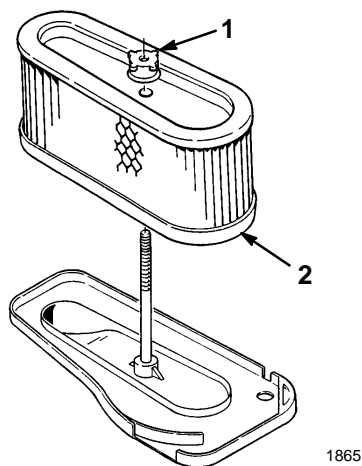

Figure 27
5. Unscrew the rubber nut and remove the paper element (Fig. 27).
2. Slide the air cleaner assembly onto the long rod. Now screw the rubber nut finger-tight against the air cleaner (Fig. 27).